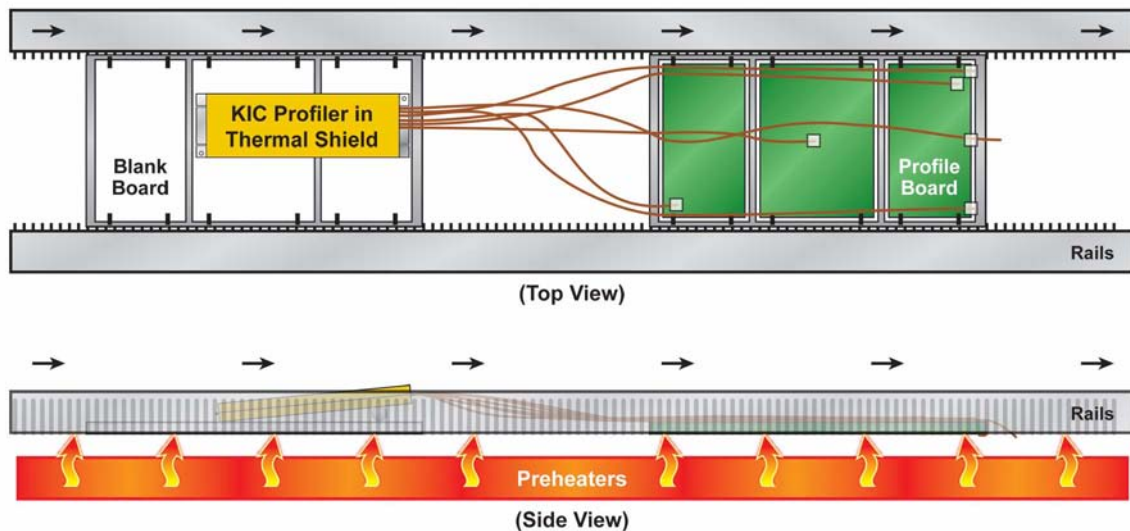

Figure 123: Profiling Wave Solder Using a KIC Profiler
- During the profile, you can run the *KIC Profiler* in front or behind the profile board. See Figure 123.
- Run the thermal shield upside-down to prevent any solder from contacting the *SlimKIC 2000*. See Figure 123.
- It is helpful to raise the *SlimKIC 2000* thermal shield at least 1/8" to 1/4" off the carrier board/palette in order to prevent any liquid solder from entering the *Thermal Shield*. See Figure 123.